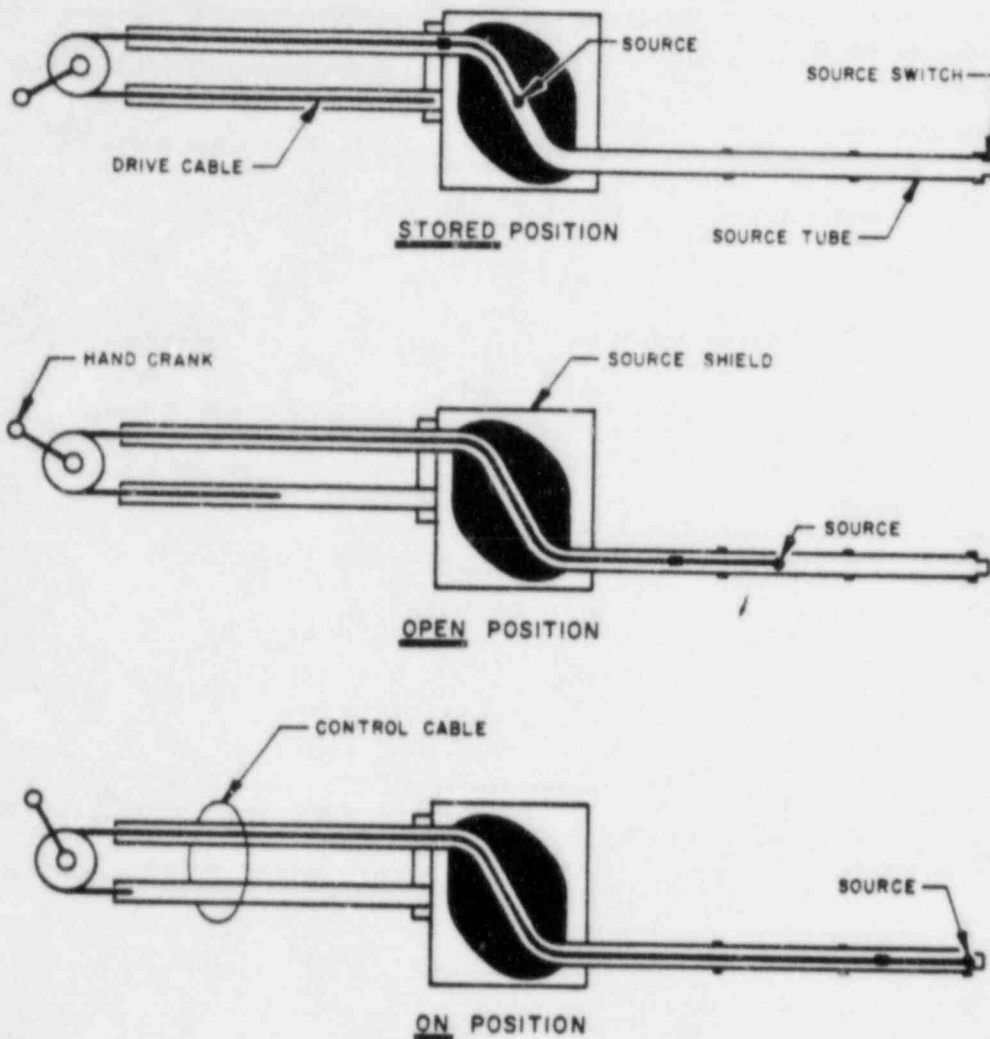

Figure 4. Mechanical Schematic
1.6. Principles of Operation (See Figure 4.)